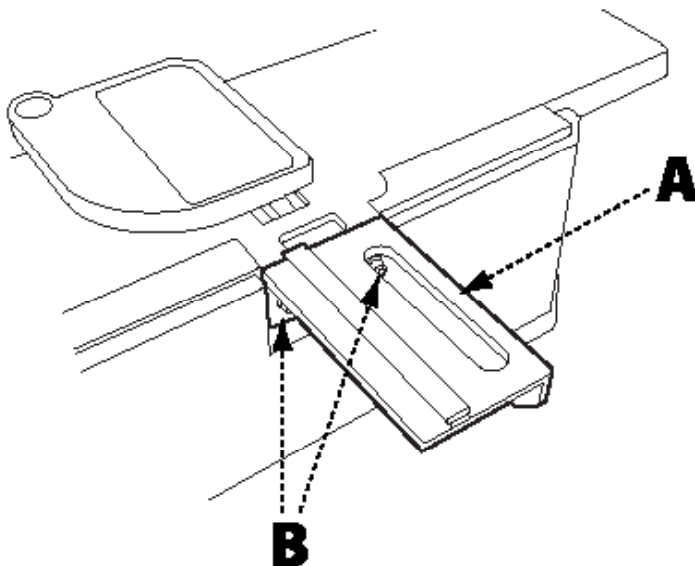

FIGURE 1
1. Attach the fence support bracket (A) to the tool frame using two M8 x 25mm socket head screws (B), each fitted with an 8mm lock washer. See Figure 1. Ensure that the top surface of the bracket is flush with the top of the table.